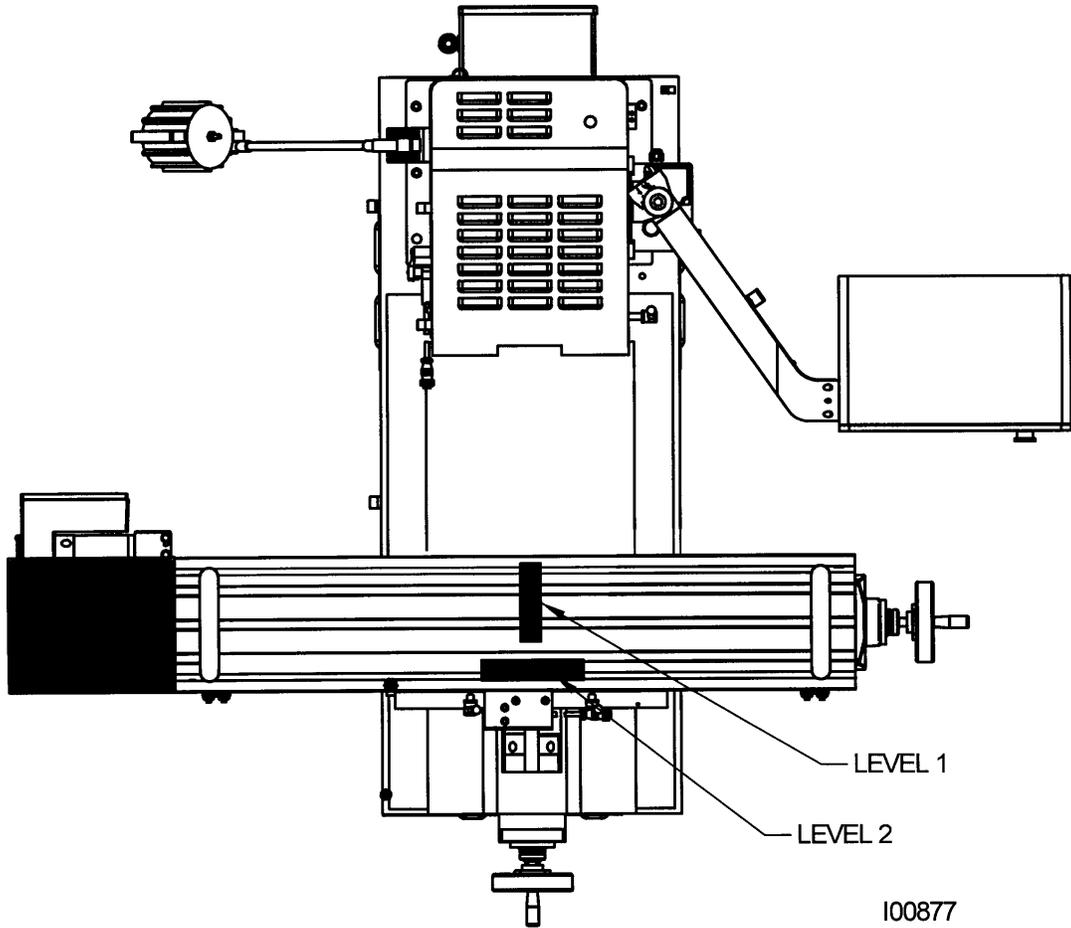

Figure 7
2. Put one or two precision Spirit Levels or Electronic Levels in the center of the table in the positions illustrated in Figure 7.